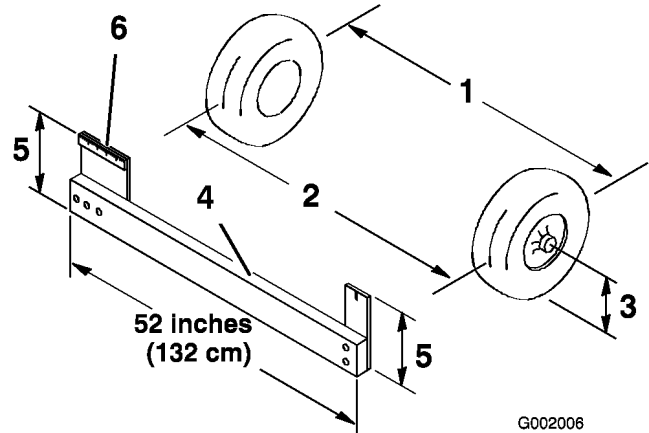

Figure 59
4. Measure the distance between both of the front tires at the axle height at both the front and rear of the front tires (Figure 59). A fixture
or alignment gauge is needed for the rear measurement of the front tires at axle height. Use the same fixture or alignment gauge to accurately measure the front of the front tires at axle height (Figure 59).